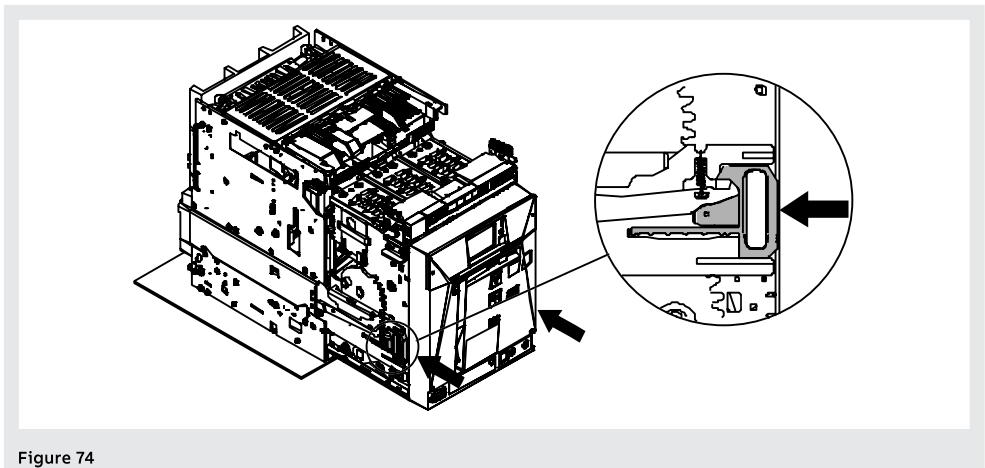

Figure 74
6. Grip the guide levers of the fixed part and push them until the moving part stops. See Figure 74.